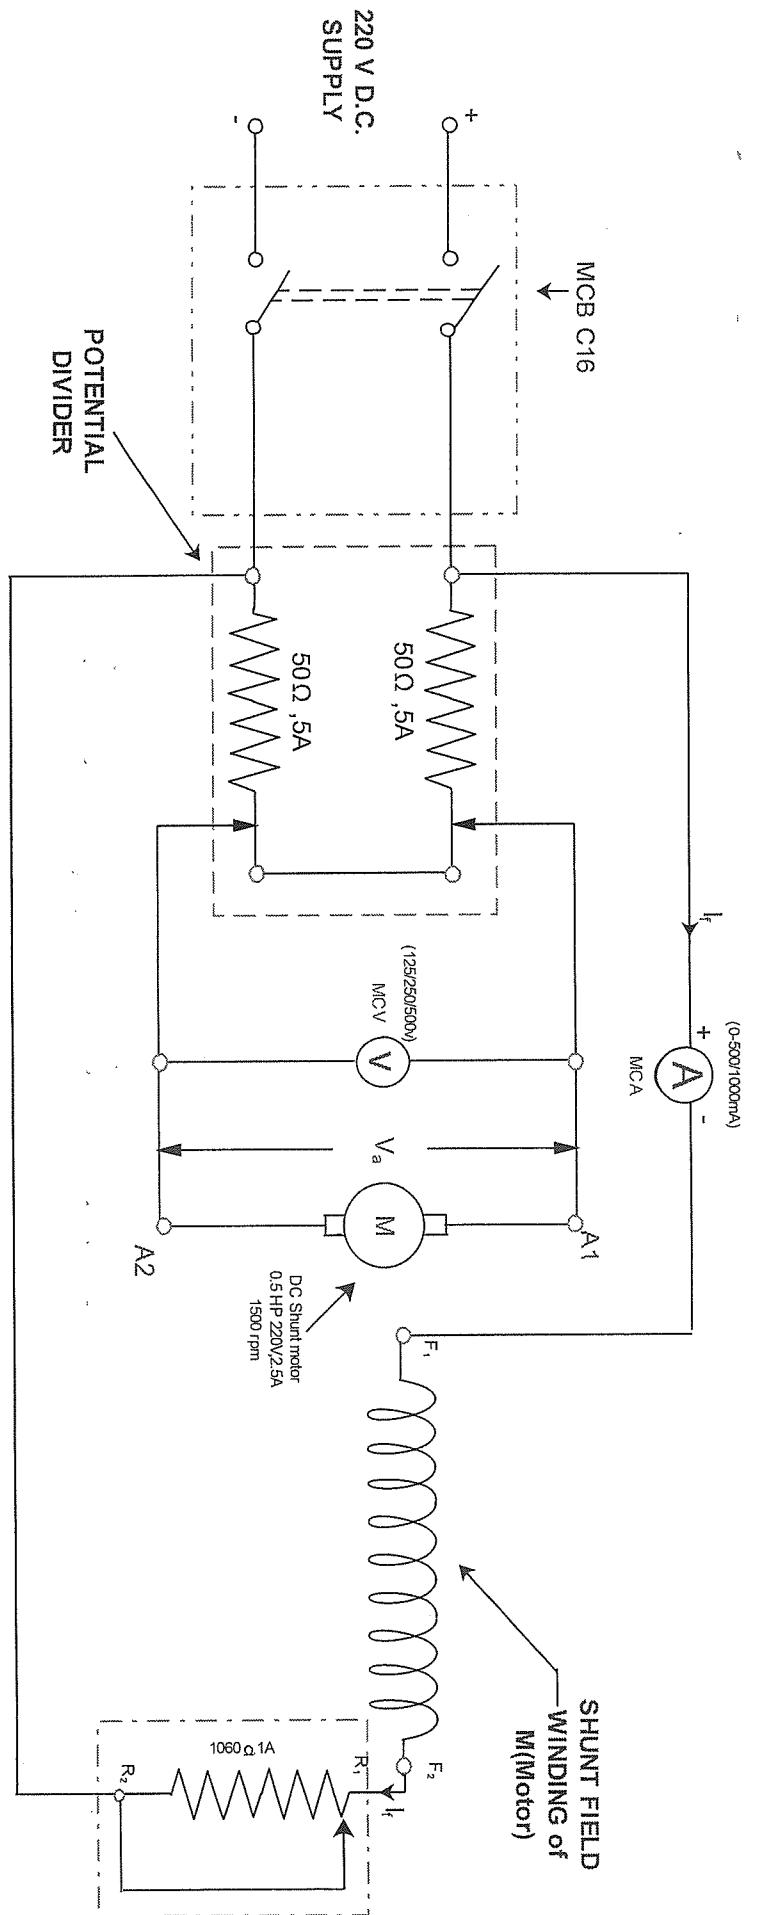

Fig: 4.1 Circuit diagram for speed control of D.C. shunt motor
1) Make connections as shown in the circuit diagram. (Fig.4.1)